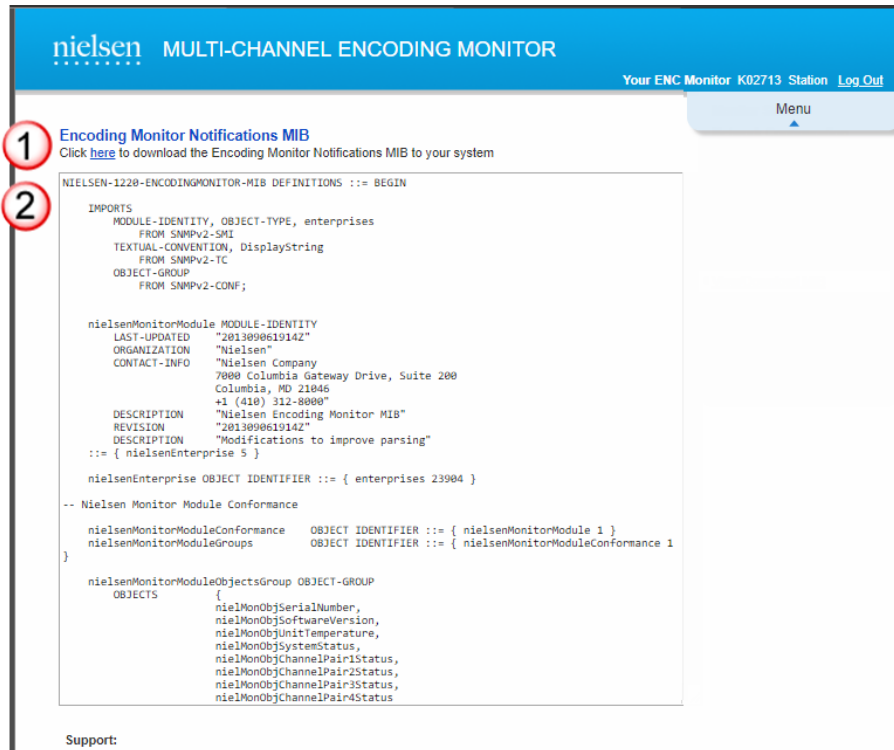

Figure 47: View/Edit SNMP Notification Configuration Page
The Nielsen MCEM monitor comes with an SNMP Notifications MIB (named NIELSEN-1220-MONITOR-NOTIFICATIONS-MIB) that defines event notifications the monitor can send via SNMP traps to up to five SNMP manager servers. To view or download the MIB, select View/Download MIB from the web interface main menu (Item 6 in Figure 47).
The text box labeled Item 1 in Figure 47 provides a place to enter the SNMP community string to be included in notification traps sent from the monitor to the SNMP network managers listed in the text box. Devices cooperating on an SNMP network use these community strings as a filter to determine which SNMP traps they accept and process. The SNMP community string should be set to a value determined in consultation with local network administrators.
The SNMP Community String may be from 1 to 255 characters long, including alphanumeric characters, underscores, and hyphens. The monitor web interface requires that a syntactically valid value be set for the community string (even if the list of SNMP Network Managers [item 2 in Figure 47] is left blank). The default community string value set by Nielsen is EM1220Notifications, but this can be changed to suit the requirements of the local network.